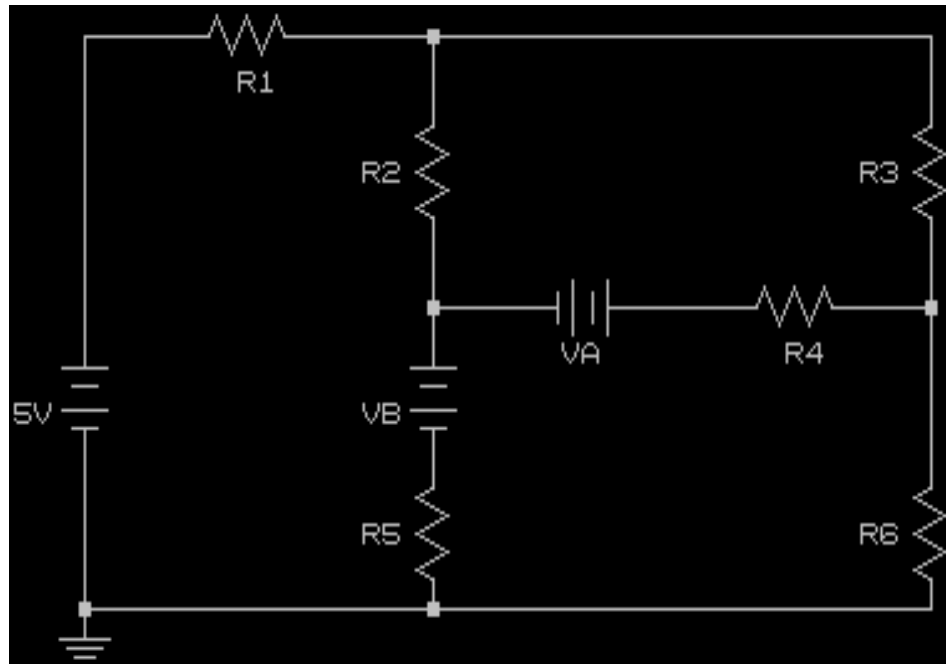

Figure 1 - Record MEASURED Resistor Values Above
- 1) select and measure resistors for your circuit (see Fig. 1). This is important to do first, so that your calculations (step 3) and your computer simulation (step 4) will be based on the actual resistance (which is never the same as the (color-) coded resistance. Record the measured resistance values on Fig. 1, **and create a table that will be used to record data from procedure steps 3, 4, 6.**
- _7) **prepare three schematic diagrams, similar to Fig. 1, so that each one shows how to connect the ammeter to measure one of the three mesh currents.** Now measure the "mesh" currents